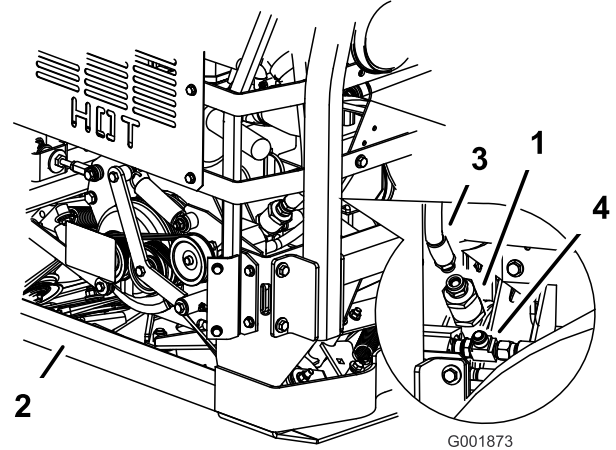

Figure 77
1. Place drain pan under filter, remove the hydraulic hose from the filter (Figure 77).
2. Remove the cooling fan hydraulic filter from the T-fitting on the bottom of the filter (Figure 77).
3. Install the filter to the T-fitting on the bottom and the hydraulic hose to the top (Figure 77).